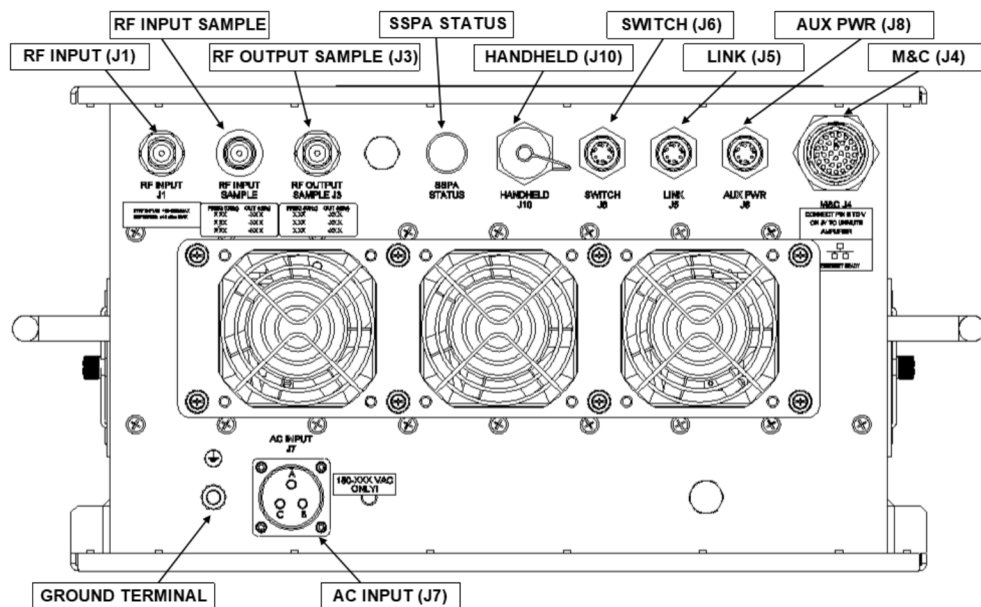
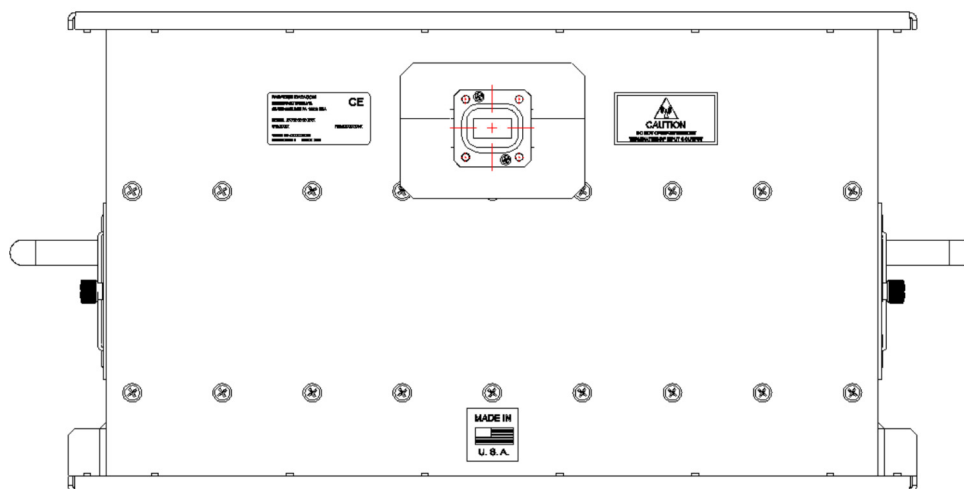

Figure 2: Outline Drawing, I/O Panel and Exhaust Fans
Figure 3: Outline Drawing, RF Output
Figure 2 and Figure 3 show the connectors available on the unit.
The RF Output shown in Figure 3 is a WR-75 waveguide flange with 0.206" diameter through holes, used with Ku-Band amplifiers. C-Band amplifiers utilize a CPRG-137 waveguide flange with 0.206" diameter through holes. X-Band SSPAs use CPRG-112 waveguide flanges with 0.206" diameter through holes. S-Band amplifiers have Type N (F) connectors.